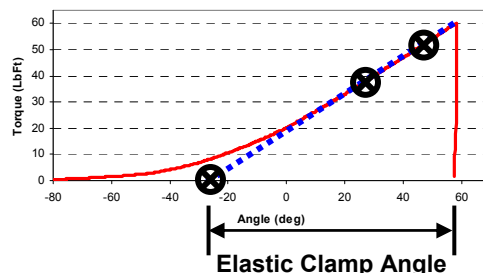

Figure 6: Determine the Elastic Clamping Angle
Step 4: Determine the Elastic Clamping Angle, measured from the Elastic Origin, as in Figure 6.